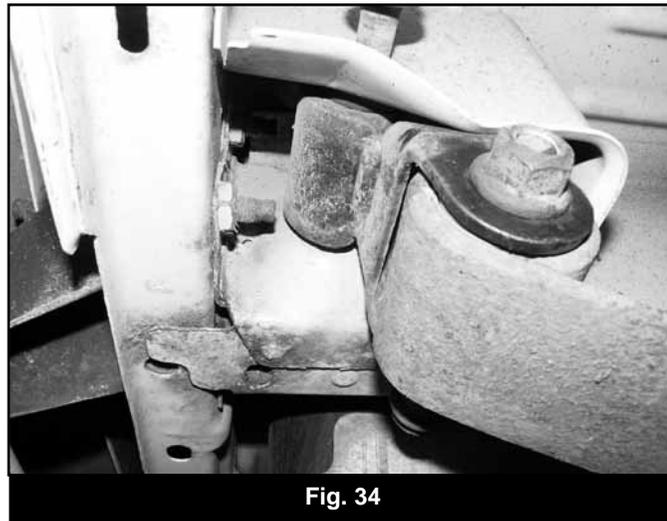

Fig. 34
12. Apply a small amount of grease to bushings (3533BK) and install bushings, sleeves (52) and grease zerks into the new shackles (01312).
13. Grease and install bushings into leaf spring eyes (M02402RB & M02403RB) then install sleeves (52 & 51). Note: The longer sleeves (51) go in the large spring eye bushings.
15. Locate the bumper bolt that is protruding into the shackle pocket (Fig 34). This bolt will contact the new larger shackle through suspension travel. The bolt can either be cut off flush with the welded nut on the body or removed.